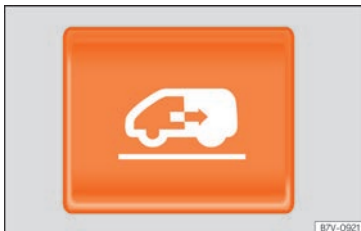

Fig. 137 On the dash panel, on the remote control key and on the interior lining of the sliding door: button to open and close a sliding door.
Opens the sliding door electrically.	<p>Press the »» Fig. 137 button on the dash panel, on the remote control key and on the interior lining of the sliding door. The sliding door opens with the rollback anti-trap function as long as the button is not pressed again.</p> <p>Pull briefly on the interior or exterior door handle. The sliding door opens automatically.</p>
Closing the sliding door electrically.	<p>Press the »» Fig. 137 button on the dash panel, on the remote control key and on the interior lining of the sliding door. The sliding door closes with the rollback anti-trap function as long as the button is not pressed again. As it closes, a warning sound is given.</p> <p>Pull briefly on the interior or exterior door handle. The sliding door closes with the roll-back function. As it closes, a warning sound is given.</p>
- Press and hold the ⏪ button »» Fig. 137.